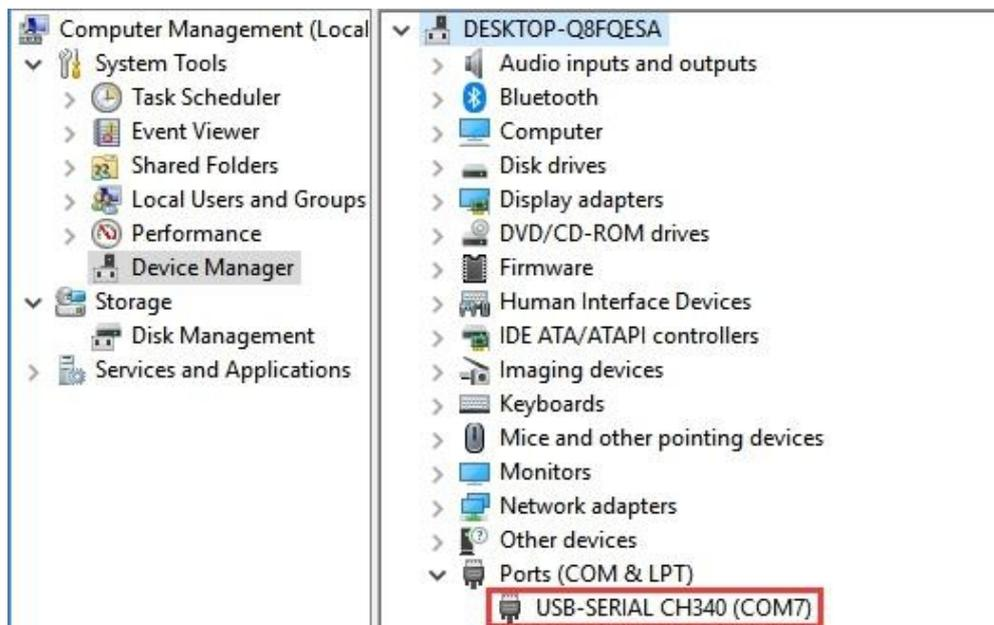

Figure 12 Driver Installation Successful
Step 3: Right click "This PC", then click "Management", then click "Device Manager", then you can check whether the installation is successful or not as shown in Figure 12.